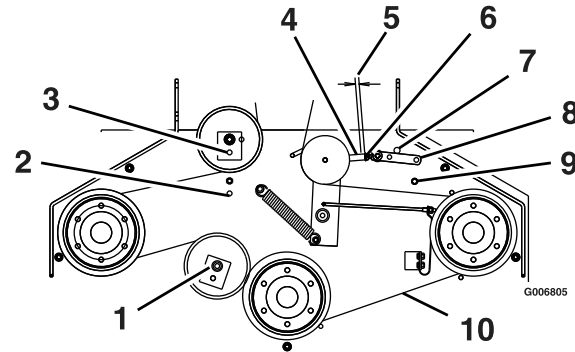

Figure 13
- Check the adjustment of the lower blade drive linkage located between the bellcrank on the engine deck and assist arm on the mower deck. Lengthen or shorten the linkage. When properly adjusted, there should be 1/16 inch to 1/8 inch (2–3 mm) of clearance between bell-crank and transmission output shaft when belt is engaged. Make sure the assist arm is against the rear assist arm stop on the deck (see Figure 13). Push the lever down to the disengaged position. The assist arm should contact the front assist arm stop on the deck. If it does not contact, readjust so that the bellcrank is closer to the transmission output shaft.
- Belt must be tight enough to not slip during heavy loads while cutting grass. Over-tensioning will reduce belt and spindle bearing life. To adjust belt tension, loosen the 5/16 inch whizlock nut on turnbuckle and rotate the turnbuckle; rotate turnbuckle toward rear of mower to tighten, and toward front of mower to loosen belt tension (see Figure 13). Leave a minimum of 5/16 inch (.79 cm) of the eyebolt threads engaged on both ends of the turnbuckle.
- Proper belt tension will require about 10 lb (4.5 kg) side pull on belt, halfway between pulleys (see Figure 13, item 10–Point A) to deflect belt 1/2 inch (12 mm).